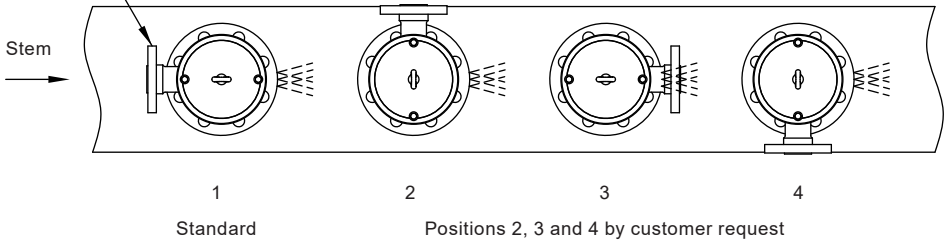

Fig. 5 DA assembly positions
- The nozzle cylinder should be positioned so that the water sprays in the same direction as the steam (Figure 5) and should be located in the center of steam pipeline for up to 24" (DN600) (Figure 6).
- The steam pipeline branch should have an internal diameter at least 65 mm (Figure 5).